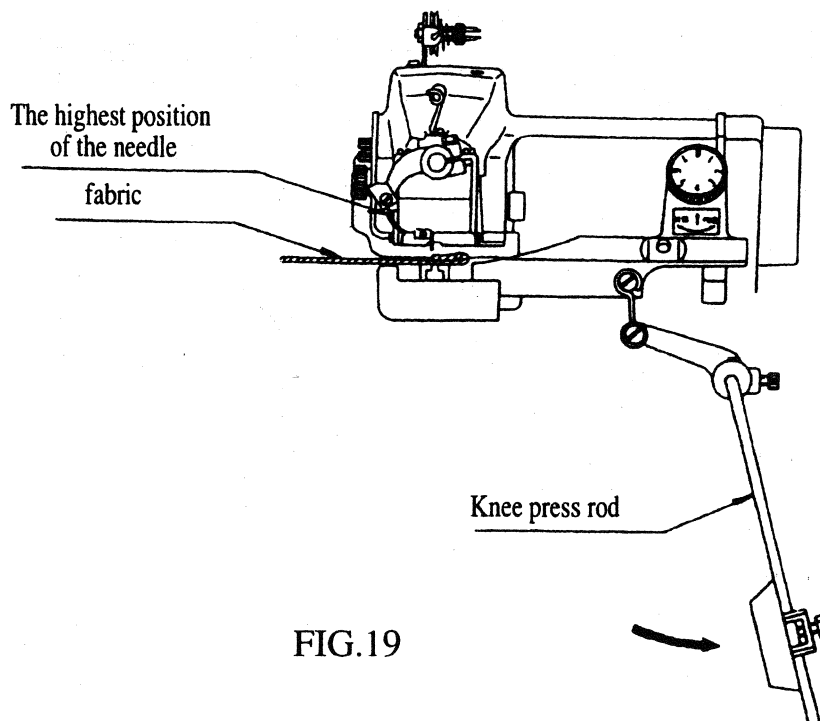

FIG.19
10. TAKING THE SEWING MATERIAL OUT (FIG.19)